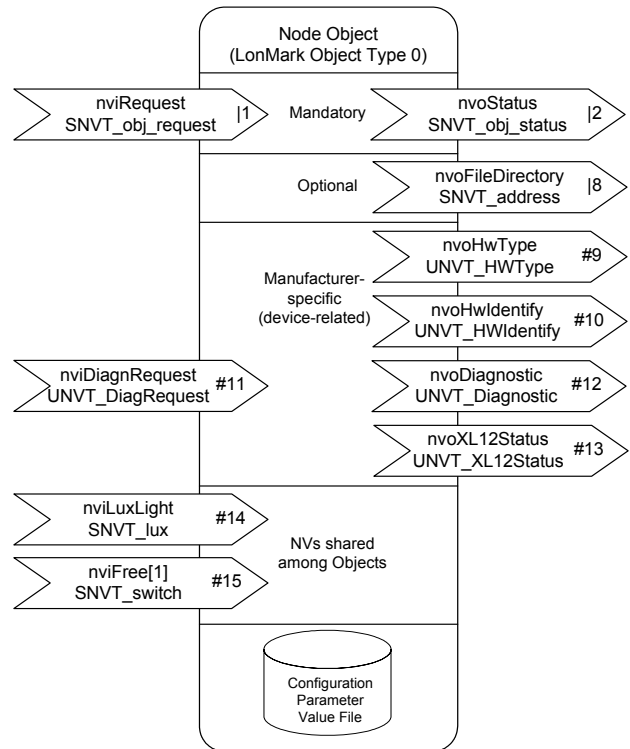

Fig. 10. Node Object
- one analog input object (see Fig. 10)
- one node object (see Fig. 10)